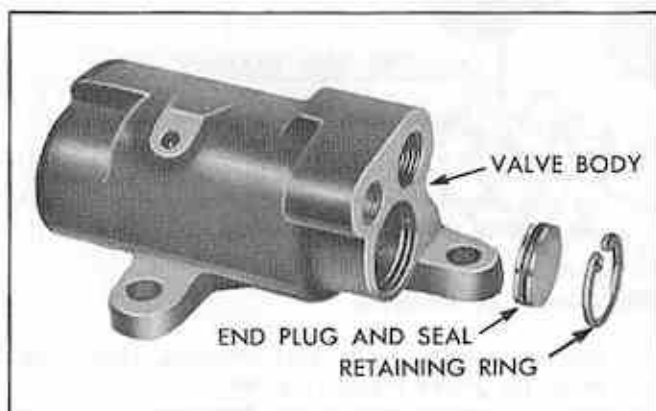

Fig. 59 Valve Body Plug and Retaining Ring
6. Remove retaining ring, end plug and seal from valve body using #1 Truarc pliers J-5403 (Fig. 59). Remove end plug seal.